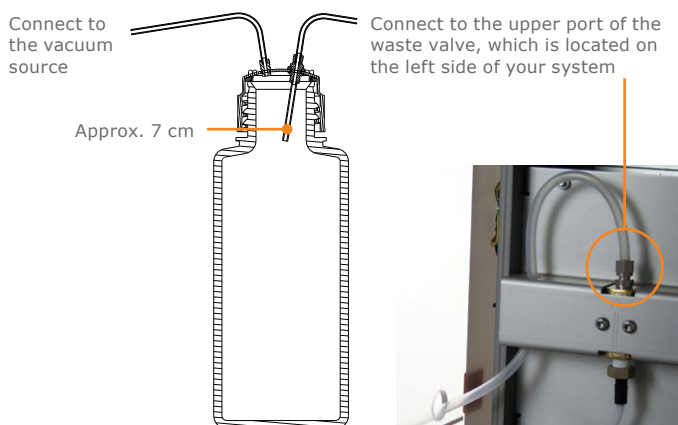

Figure 4. The setup of the waste kit.
23. Place the waste reservoir on the side of the system and connect the waste outlet tube and vacuum to it; see Figure 4. If using a vacuum pump, ensure that the vacuum pump fumes are directed into a proper ventilation system.